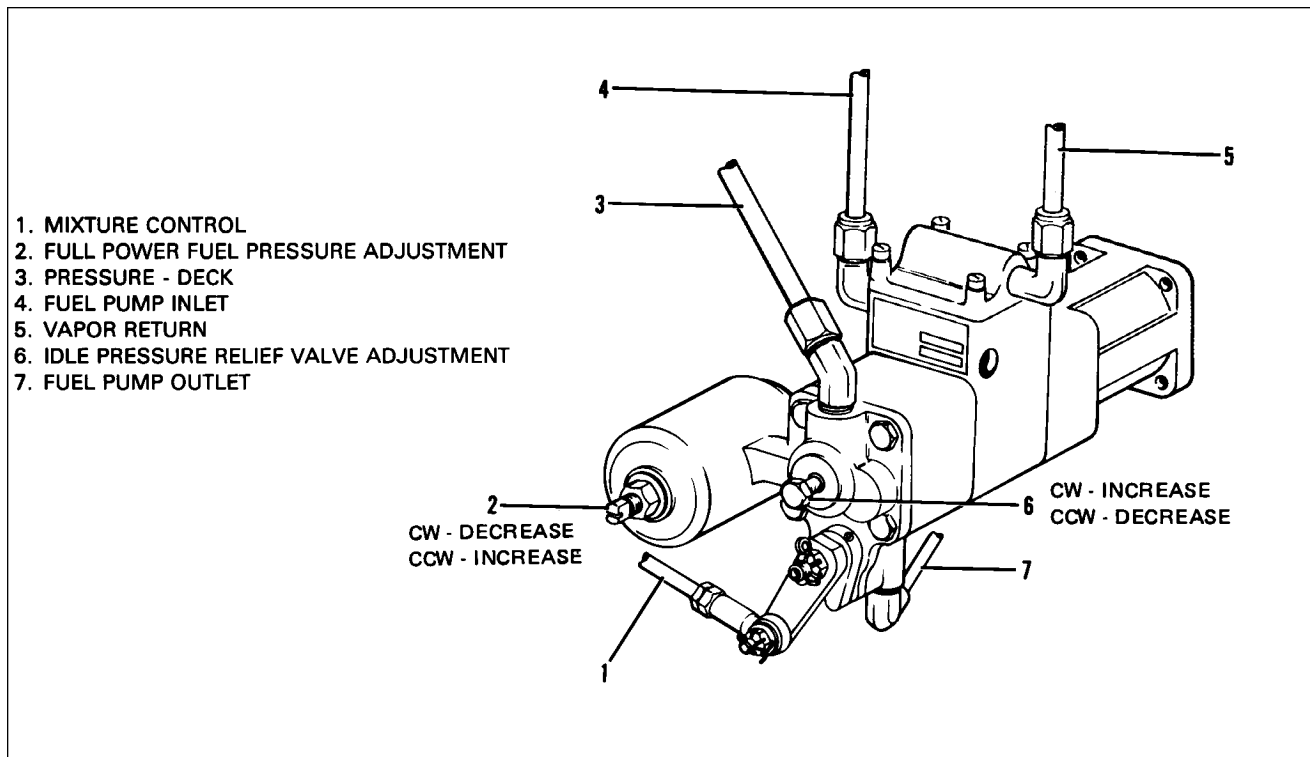

Figure 76-4. Sectional View of Altitude Compensating Fuel Pump Assembly
- C. While maintaining 700 ± 25 RPM, set the idle fuel pressure at 6.5 ± 0.25 psi by adjusting the idle pump adjustment screw (refer to Figure 76-4, Item 6); clockwise adjustment increases pressure; counterclockwise adjustment decreases pressure.
7. Check and Adjustment for Full Power Performance: (Refer to Figure 76-4.)
- C. If adjustment is required, loosen the jam nut on the adjusting screw located on the aneroid housing of the fuel pump. (Refer to Figure 76-4, Item 2.) Clockwise adjustment decreases fuel flow reading; counterclockwise adjustment increases fuel flow reading; one full turn will cause a 1.0 to 1.5 gph change. Use CAUTION when loosening and tightening the jam nut so as not to change settings or over torque the jam nut.